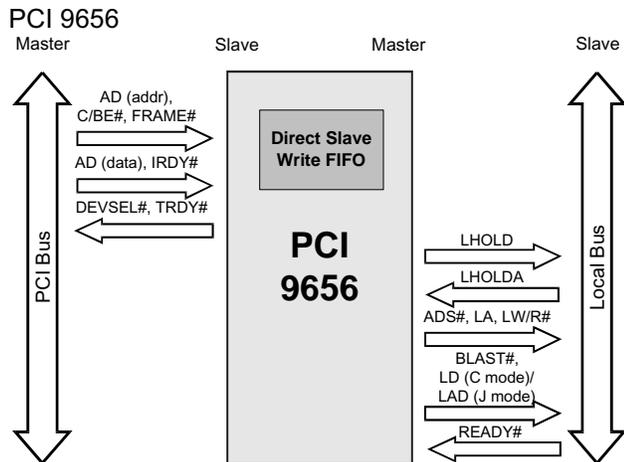

Figure 5-6. Direct Slave Write
**Note:** Figure 5-6 represents a sequence of Bus cycles.